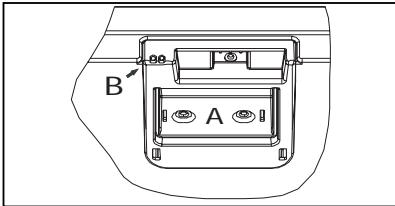

Figure 6.
7.2. Interior light (fig. 6.)
2. Reset the door control signal by holding the Remote control against the door opening sensor (Fig. 6. B) and push the button .